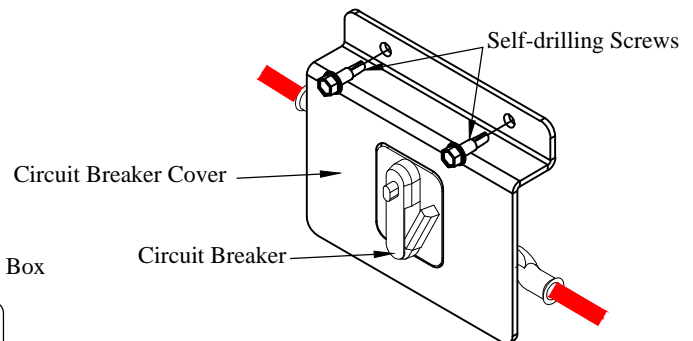

Figure 20: Circuit breaker cover.
15. **Attach** the circuit breaker cover using the supplied self-drilling screws (Figure 20).